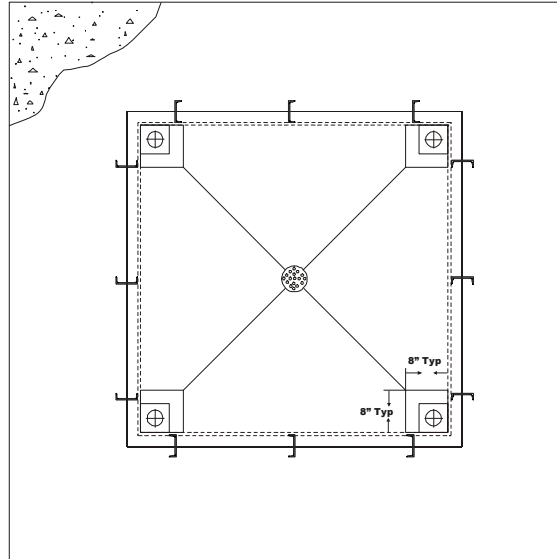

FIG. 24 PIT FRAME DIMENSIONS
Step 1. Place the pit frame in the approximate position it will occupy on the floor. (See Fig. 24)
Step 2. Mark out the position of the hole to be made. The hole MUST be a minimum of 12" larger than the pit frame on all sides. (See Fig. 24)